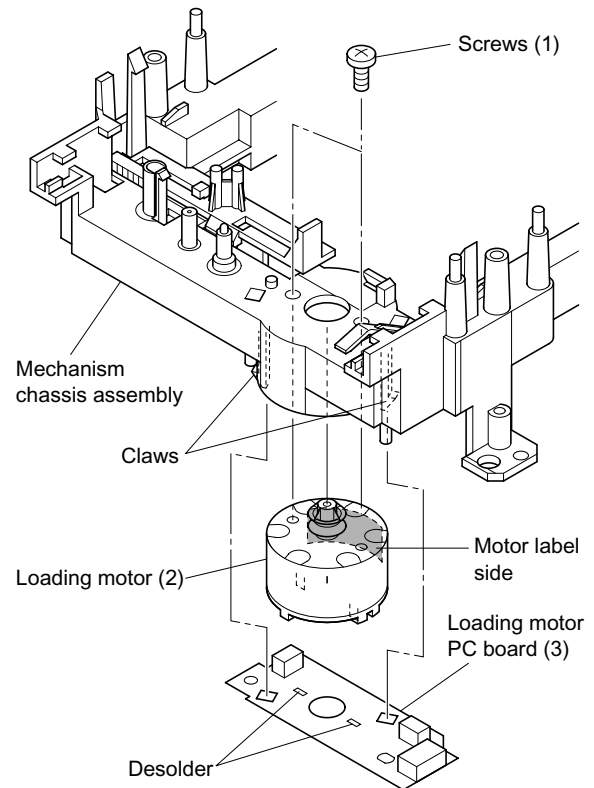

Fig. 2-1-14
- When replacing the loading motor, meet the polarity phase of the terminals. (Mount the motor with the label positioned as shown in Fig. 2-1-14.)